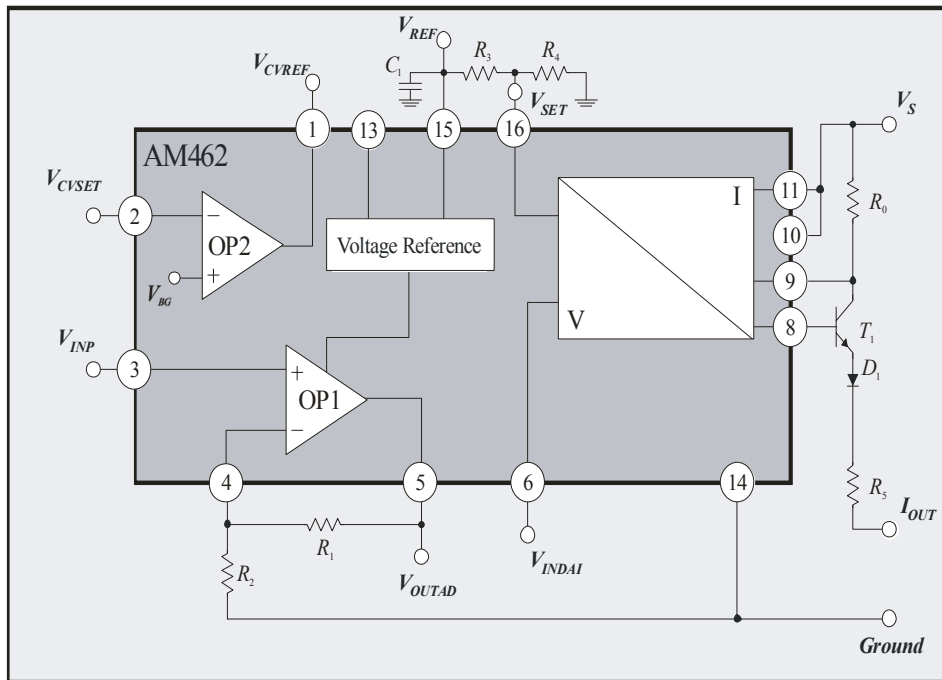
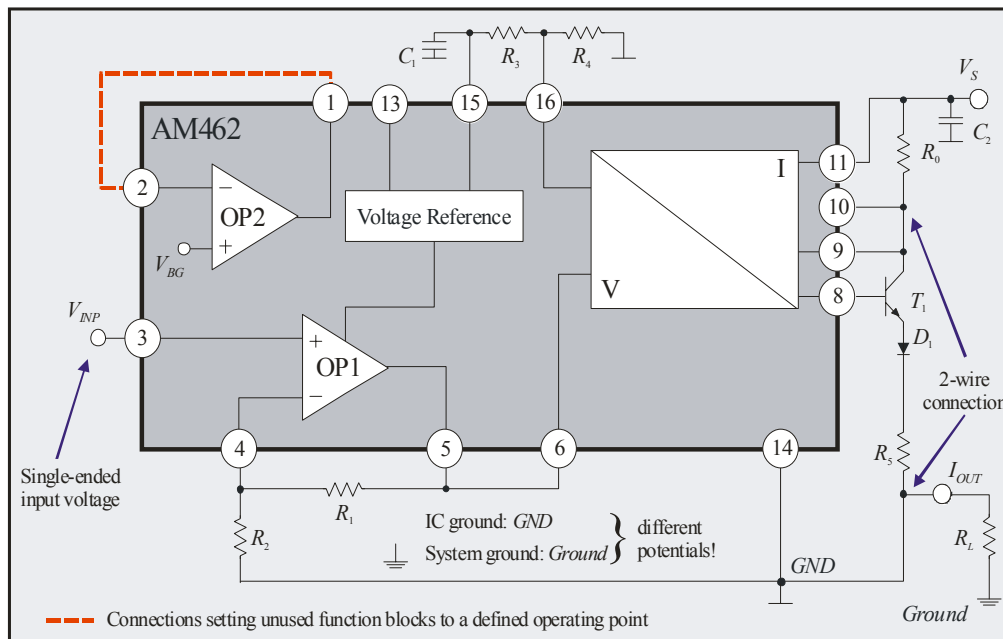

Figure 2: Block diagram of AM462 (3-wire circuit for current output). Pin 1 and 2 have to be connected.
Figure 8: Typical 2-wire operation for input signals referenced to ground
AM462 is a modular, universal V/I converter and protector IC which has been specially developed for the conditioning of voltage signals referenced to ground. It is designed for both 2- and 3-wire operation in industrial applications (cf. application in Figure 8). AM462's various functions are depicted in the block diagram (Figure 2) which also illustrates how few external components are required for the operation of this particular device.
AM462 consists of several modular function blocks (operational amplifiers, voltage-to-current converters and references) which, depending on external configurations, can either be switched to one another or operated separately (see the basic circuitry in Figure 2):
2. The internal voltage-to-current converter (V/I converter) provides a voltage-controlled current signal at IC output I_{OUT} (pin 8) which activates an external transistor T_1 ; this in turn supplies the actual output current I_{OUT} . To reduce power dissipation the transistor is an external component and protected against reverse polarity by an additional diode D_1 . Via pin SET an offset current I_{SET} can be set at output I_{OUT} (with the help of the internal voltage reference and an external voltage divider as shown in Figure 2, for example). External resistor R_0 permits the output current to be finely adjusted with parallel operation of current and the voltage output. For the output current provided by T_1 the following ratio applies:
3. The AM462 *reference voltage source* enables voltage to be supplied to external components (such as sensors, microprocessors, etc.). The reference voltage value V_{REF} can be set via pin 13 V_{SET} . If pin V_{SET} is not connected, $V_{REF} = 5V$; if V_{SET} is switched to ground, $V_{REF} = 10V$. Values between the above can be set if two external resistors are used (inserted between pin V_{REF} and pin V_{SET} and between pin V_{SET} and GND ; see Figure 2).
When using amplification stage OP1 together with the V/I converter for voltage-to-current conversion the offset of the output current should first be compensated for by suitable selection of resistors R_3 and R_4 . To this end the OP1 input must be connected to ground ($V_{INP} = 0$). With the short circuit at the input and by connecting up V/I converter pin *VSET* as shown in Figure 2 the values of the output current according to Equation 2 are as follows:
1. When operating AM462 it is imperative that external capacitor C_1 is **always** connected (cf. **Figure 2**). Care must be taken that the value of the capacitance does not lie beyond its given range, even across the range of temperature (see *Boundary Conditions* on page 7). In 2-wire operation ceramic capacitor C_2 must also be used (cf. Figure 8).
In a 2-wire version (cf. *Figure 8*) system supply voltage V_S is connected up to pin 11 ($RS+$) and pin 10 (VCC) to pin 9 ($RS-$). The ground of the IC at pin 14 (GND) is connected to the node between resistor R_5 and load resistor R_L . IC ground (GND) is **not** the same as system ground ($Ground$). The output signal is picked up via load resistor R_L which connects current output I_{OUT} to the system ground.